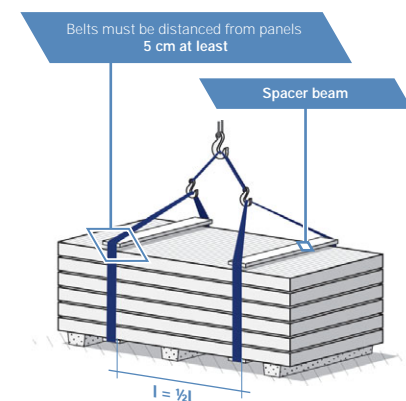

fig. 03
- During unloading provide support for the pile. Span equal $\frac{1}{2}$ of length of the panels; (fig. 03)